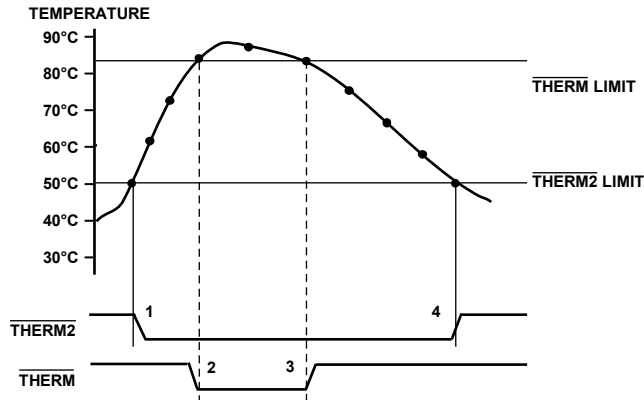

Figure 22. Operation of the \overline{THERM} and $\overline{THERM2}$ Interrupts
Figure 22 shows how $\overline{\text{THERM}}$ and $\overline{\text{THERM2}}$ might operate together to implement two methods of cooling the system. In this example, the $\overline{\text{THERM2}}$ limits are set lower than the $\overline{\text{THERM}}$ limits. The $\overline{\text{THERM2}}$ output could be used to turn on a fan. If the temperature continues to rise and exceeds the $\overline{\text{THERM}}$ limits, the $\overline{\text{THERM}}$ output could provide additional cooling by throttling the CPU.
3. The \overline{THERM} output de-asserts (goes high) when the temperature falls to \overline{THERM} limit minus hysteresis. In Figure 22, there is no hysteresis value shown.